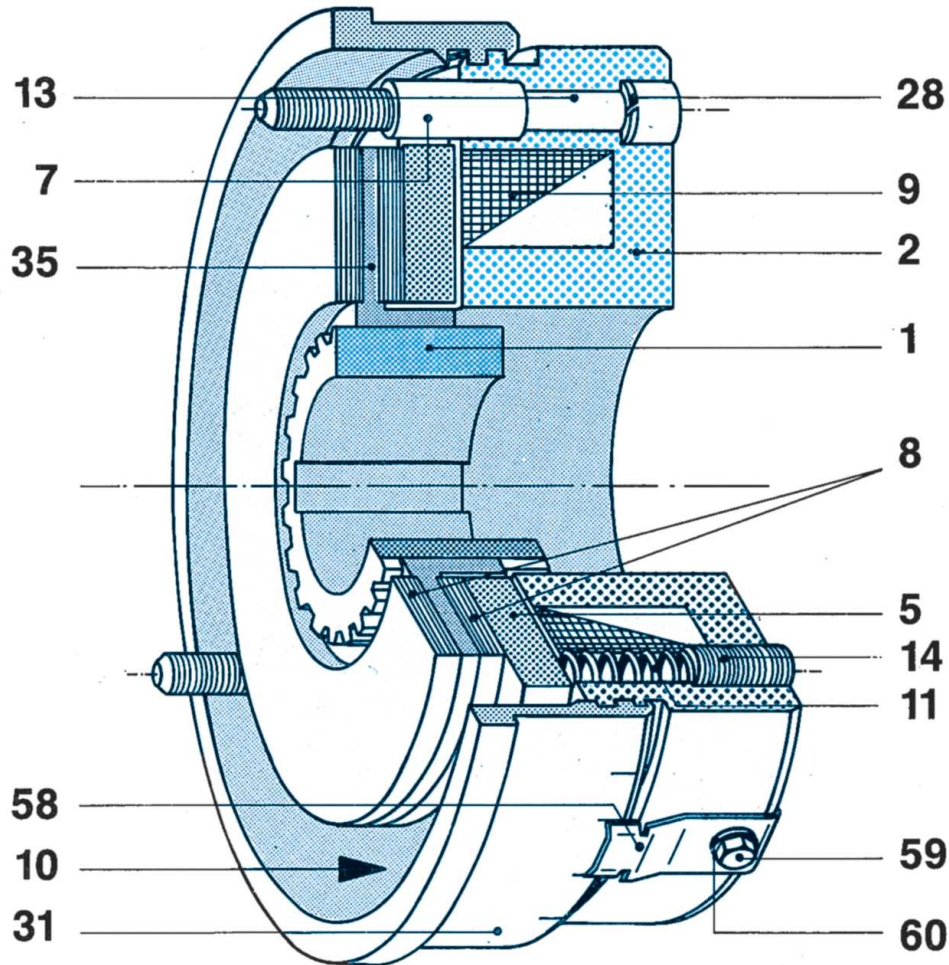
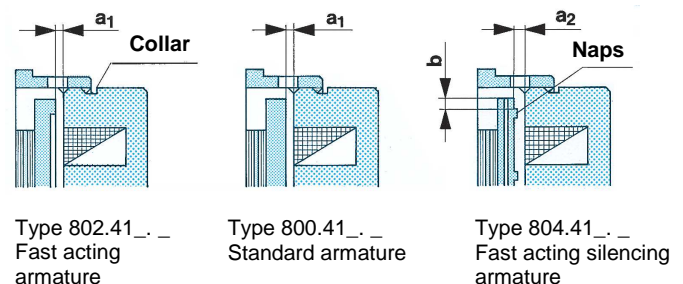

Fig. 1
Fig. 2
Check the air gap (a_1, a_2). Fig. 2 nominal air gap (a_1, a_2) according to Table 2 must be available. The shoulder screws (10) Figs. 1 and 4 prevent the individual parts from coming apart.
The working air gap between armature disc (5) and coil carrier (2) is adjusted to the nominal dimension (a_1, a_2) in the factory, Fig. 2 and Table 2
1. Remove a plug from the threaded distance ring (31). Measure the air gap in a de-energised condition with a feeler gauge before an adjustment. The difference between the measured air gap and nominal air gap (a_1, a_2) according to Table 2 must be re-adjusted.
2. Loosen the fixing screws (13).
3. Release the locking screw (59) and lock washer (58).
4. Turn the threaded distance ring (31) counter-clockwise (when looking at brake back side). Turning the distance ring (31) by one graduation of the stamped scale corresponds to an air gap adjustment for the sizes 3 to 6 of 0,05 mm, for the sizes 7 to 11 of 0,1 mm.
5. Tighten the fixing screws (13), observe the tightening torques according to Table 1.
6. Tighten the clamping screw (59).
This adjustment can be repeated so often, until the graduated distance ring (31) contacts the rod-stop of the coil carrier (2), Fig. 2. This contact avoids an unacceptable wear of the rotor (35). If a re-adjustment is not possible any more, the rotor (35) must be exchanged. You can find data on the rotor thickness in a new condition and thickness after a max. wear in Table 2.